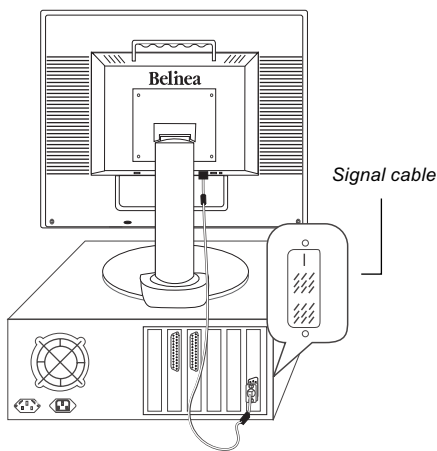
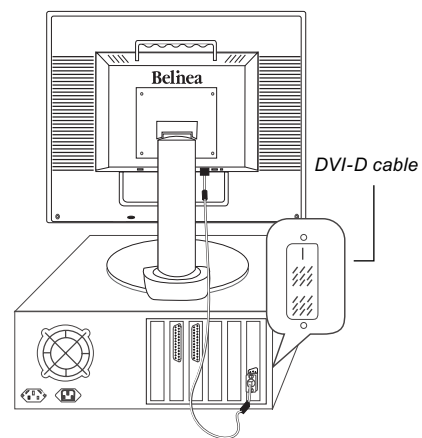

Figure 2a. Connecting the monitor to the PC
Figure 2b. Connection via the DVI-D interface
2. Connect the 15-pin signal cable to the monitor and the PC (see fig. 2a).
3. If you have a graphic card with a digital DVI-D connector (24-pin socket), then connect one end of the DVI-D cable (optional) to the DVI-D connector of your monitor (see fig. 2b), the other end to the computer.
Input: Controls the selection of the input signal. The monitor allows you to make the following connections: analog graphics card via the D-Sub interface (see fig. 2a), digital graphics card via the DVI-D-interface (see fig. 2b).